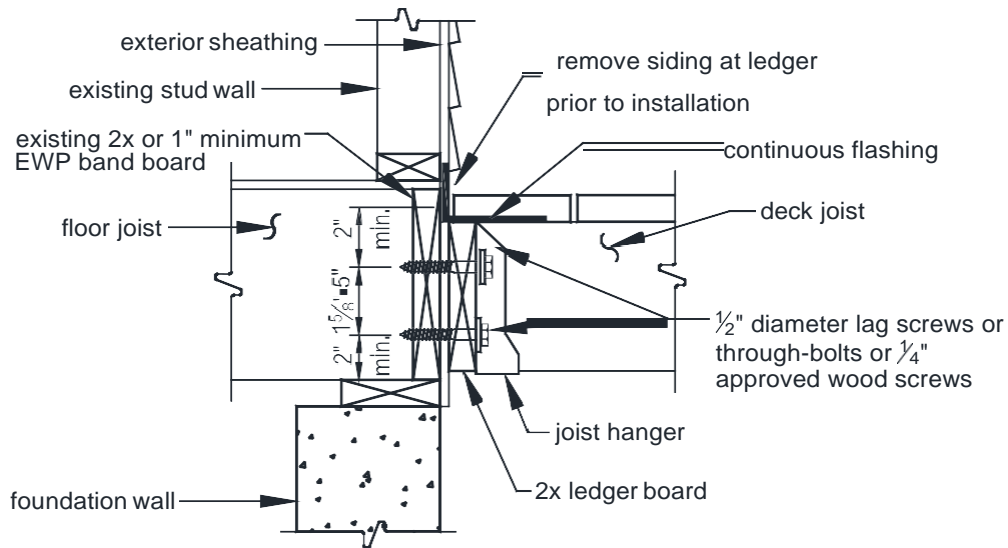

FIGURE 20: LEDGER BOARD-TO-BAND BOARD ATTACHMENT
- The ledger board shall be attached in accordance with one of the conditions shown in FIGURES 20 through 22.
- Continuous flashing, as shown in FIGURE 20, is required at the ledger board when attached to wood-framed construction.